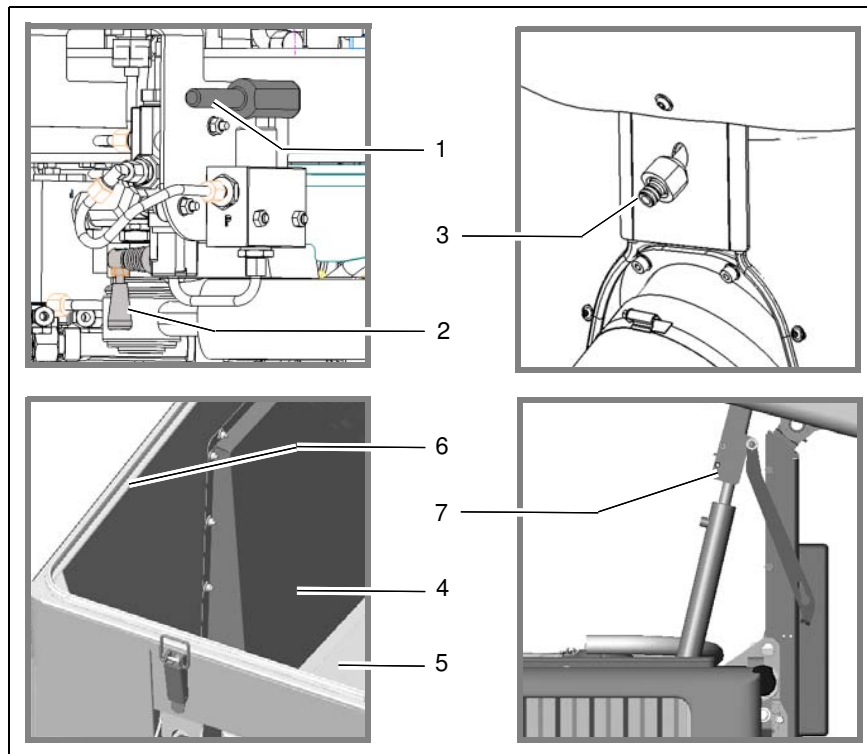

Fig.55
During maintenance work, the dirt hopper always has to be raised to its high position and the safety support (Fig. 55/7) has to be inserted.
Check the rear door seal (Fig. 55/6) on the dirt hopper after every 250 hours of operation and replace if necessary.
Every time the hopper is emptied clean the strainers (Fig. 55/4), the floor flap (Fig. 55/5) and the sump below.
Check the suction turbine in the dirt hopper after every 250 hours of operation for contamination and, if necessary, clean it. For cleaning the suction turbine there is a water connection (Fig. 55/3) on the front of the dirt hopper.
1. Fit the auxiliary tool onto the operating lever (Fig. 55/1) on the manual pump and open valve (Fig. 55/2).